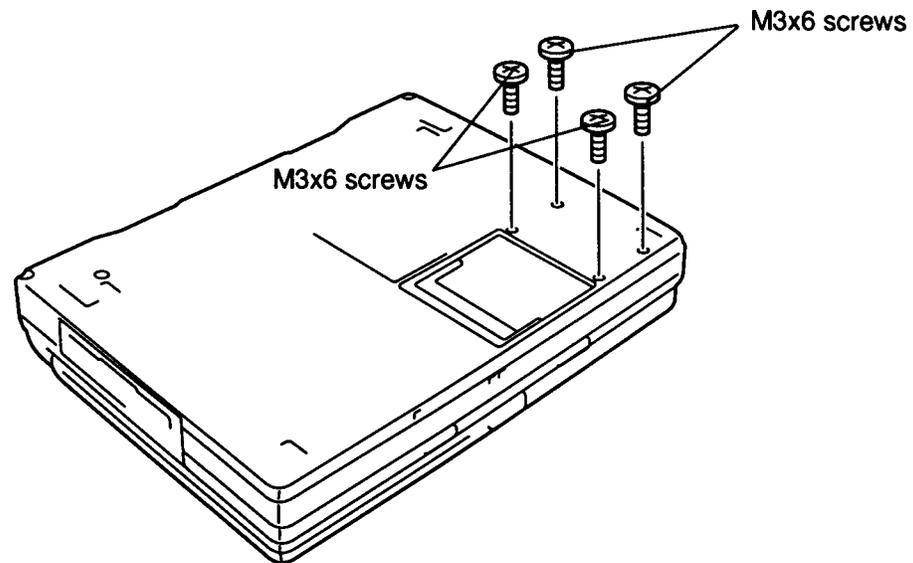

Figure 4-12 Removing the HDD screws
To remove the hard disk drive, follow the steps below and refer to Figures 4-12 and 4-13.
3. Turn the computer over and remove four pan-head **M3x6 screws** on the bottom (Figure 4-12).
To install the hard disk drive, follow the steps below and refer to Figures 4-12 and 4-13.
6. Turn the computer over and secure the bottom cover with the four pan-head **M3x6 screws** (Figure 4-12).